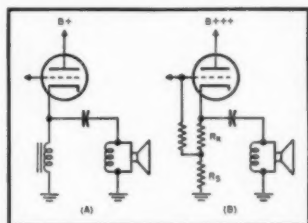

Fig. 5. Two methods of feeding high-impedance speaker from cathode of output stage.
The next case to consider is that of a single-ended output stage with power taken off at the cathode instead of the plate. The d.c. resistance of the voice coil would be a convenient source of the self-bias for the output tube, but as pointed out earlier d.c. cannot be tolerated in the voice coil. Again we can resort to shunt feed, using a resistor or choke and a coupling capacitor. As in the case of plate loading, each has its advantages and disadvantages. If a choke is used, as at (A) in Fig. 5, it would ideally have a d.c. resistance such as to provide the proper self-bias for the output tube.
Using a resistor for shunt feed is not always as simple as might first appear. That is, one cannot simply use a resistor which gives the correct self-bias for the tube, because its impedance will be considerably lower than that of the speaker load. This would mean not only a severe mismatch—since the total a.c. load would be much smaller than it should be—but also the greater part of the reduced power output would be dissipated in the resistor instead of in the speaker. One solution to this difficulty is shown at (B) in Fig. 5, where another resistor R_2 is connected between the bottom of R_2 and ground. (R_2 is chosen for correct biasing of the output tube.) If R_2 is made two or three times as large as the speaker load, then the mismatch is reduced to tolerable proportions and the speaker will absorb the greater part of the power output. Note, however, that as R_2 is made larger, the B supply must be increased proportionately to make up for the voltage lost across R_2 . Actually, this is very similar to what happens when